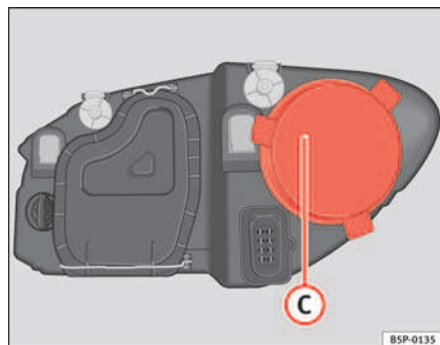

Fig. 177 Main beam headlights
- Remove the cover ⇒ fig. 177 C by pulling on this.